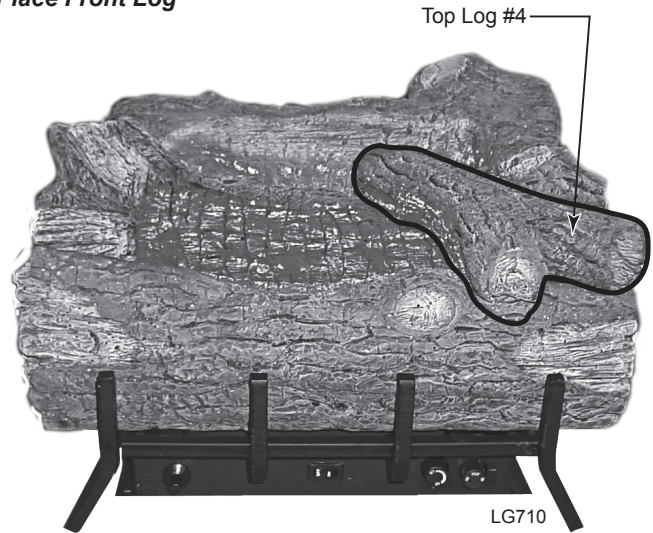

Figure 22 - Place Top Log
4. Rest Top Log (#4) in front and middle log cutouts. *Figure 22*